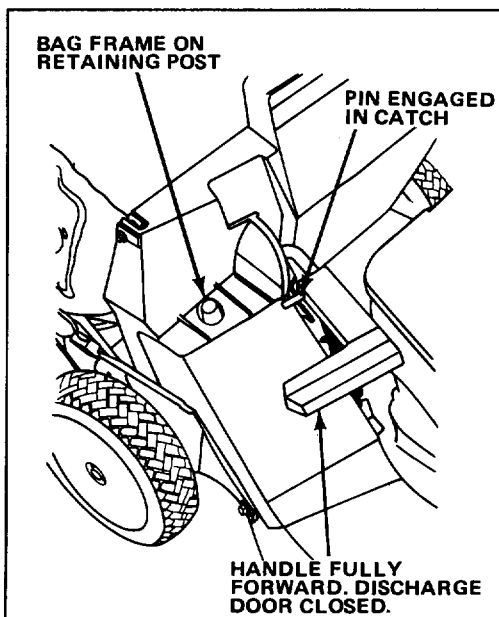

Figure 13
2. Assure discharge door handle is fully forward and pin is engaged in catch (Fig. 13).
3. **INSTALLING BAG**—Slide hole in bag frame onto retaining post on discharge tunnel (Fig. 13) and set rear of bag frame onto lower handle.
4. **EMPTYING BAG**—Stop engine and wait for all parts to stop. Raise discharge door handle and move it forward to engage the locking pin with catch (Fig. 13). Grasp handles at front and rear of bag and lift bag off mower. Gradually tip bag forward to empty clippings.